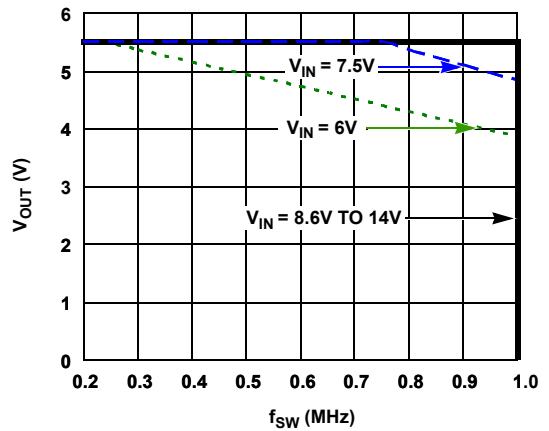

FIGURE 8. SAFE OPERATING AREA,  $T_J \leq +125^\circ\text{C}$
- Refer to Safe Operating Area in Figure 8 and thermal design guidelines in AN2010.
- Percentage of Full Scale (FS) with temperature compensation applied.